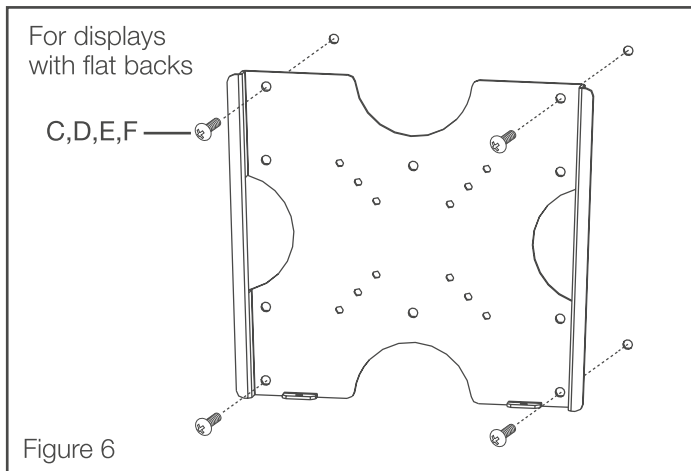

Figure 6
5. Using the correct mounting bolt size and length, attach TV Wall Mount to rear of TV (see Figure 6). To avoid damaging TV, do not over tighten bolts.